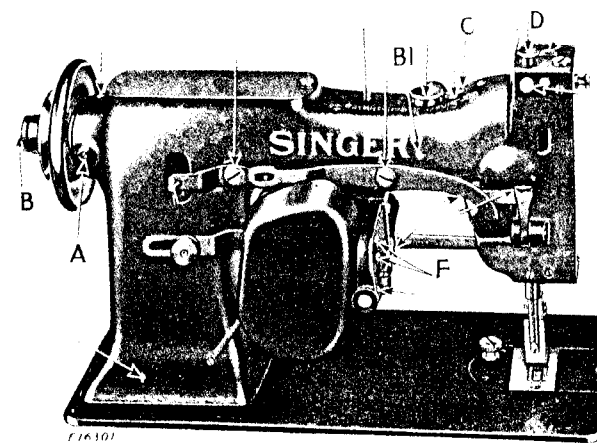
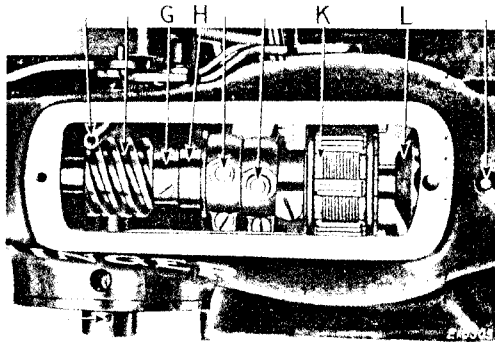
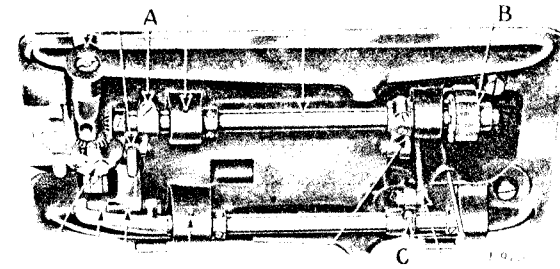

Fig. 3. Rear View of Machine, Showing Oiling Points Also Adjustments on the Machine
Fig. 4. Top View of Machine, Showing Oiling Points Inside of Arm
Fig. 6. Base View of Machine, Showing Oiling Points Also Adjustments on the Machine
the places designated by arrows in Figs. 3, 4, 5 and 6, and all other places where there are parts in movable contact. When the machine is in continuous use, it should be oiled at least twice each day. Swing back the cover which is on top of the machine and oil the wicks and bearings thus uncovered, then replace the cover.
Remove the belt and turn the machine back on its hinges and apply oil at the places designated by arrows, as shown in Fig. 6 and all other places where there are parts in movable contact.
The pressure on the material is regulated by the thumb screw (D, Fig. 3) at the top of the machine. To increase the pressure, loosen the lock screw (E, Fig. 3) at the rear of the machine, and turn the thumb screw (D) over to the right. To decrease the pressure, turn the thumb screw (D) over to the left. When the desired pressure on the material is obtained, tighten the lock screw (E).
The length of the straightaway stitches is regulated by the thumb screw (B, Fig. 3) at the right of the balance wheel.
To Prevent the Feed Dog from Striking at Either End of the Slots in the Throat Plate. Loosen screw (C, Fig. 6) and move the feed dog forward or backward until the longest stitch can be taken without the feed dog striking the throat plate and retighten the screw.
Remove the throat plate; clean the lint and dirt from between the feed points and replace the throat plate; tip the machine back and turn the balance wheel toward you until the feed dog is at its highest position; loosen screw (A, Fig. 6) and raise or lower the feed dog as desired and retighten the screw (A).
Loosen the set screws in the hook driving belt pulley (B, Fig. 6) and turn the balance wheel over toward you until the needle bar moves down to its lowest position and upward until the **lower timing mark** on the needle bar is just visible at the end of the needle bar frame, then turn the sewing hook until the point is at the center of the **right hand needle** and about $1/16$ inch above its eye, then tighten the pulley screws, being careful to see that the end of the pulley hub is flush with the end of the shaft.
Slide arm shaft connection belt off the hook driving bevel pinion shaft belt pulley (B, Fig. 6), remove the feed regulating spindle (B, Fig. 3) and balance wheel; loosen the arm shaft bushing (back) screw (A, Fig. 3) at the back of the arm and remove the bushing (L, Fig. 4), lift the belt up through the arm cap hole as far as possible and draw it out through the space formerly occupied by the bushing.
In replacing the belt see that the hook (sewing) and needle are in correct time before running the belt on the lower pulley (B, Fig. 6) and verify the correctness of the timing before commencing to sew.